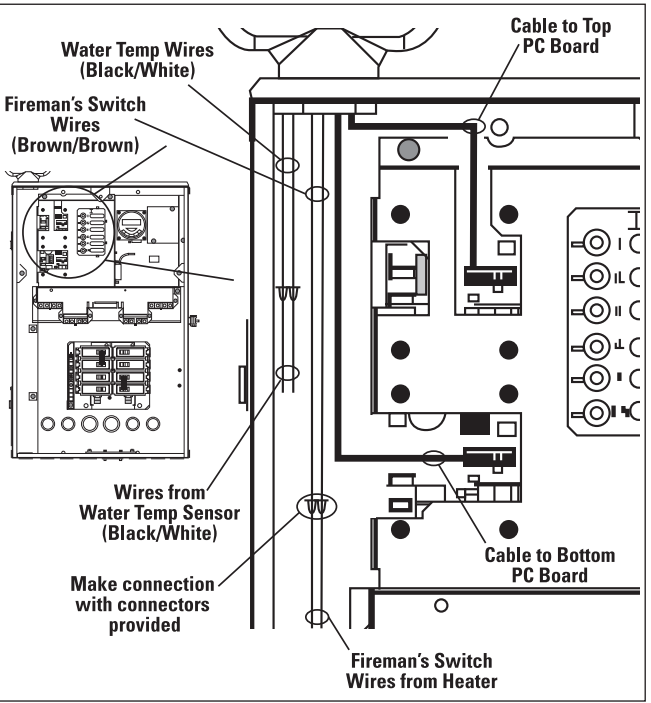

Figure 3-8
2. Run the wire to the Control Center, through the low voltage raceway. Connect both wires to the Panel Mount Receiver. (See Figure 3-8.)